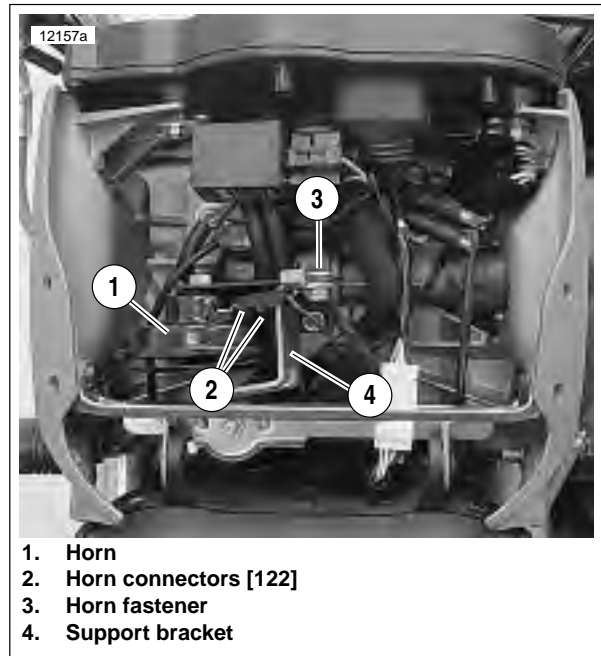

Figure 7-79. Horn Assembly
4. See Figure 7-79. Remove fastener (3).
5. Remove horn (1) from fairing support bracket (4).
2. See Figure 7-79. Attach horn (1) to fairing support bracket (4) using fastener (3). Tighten to 72-96 in-lbs (8.1-10.8 Nm).